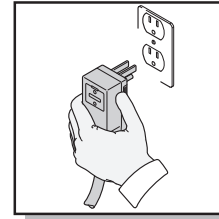

fig. 9
3. Unwind the power cord and plug the GFCI into a grounded 120 volt outlet. Press the 'reset' button on the GFCI box (fig. 9). Indicator window will show red. Reset each time the unit is plugged in.